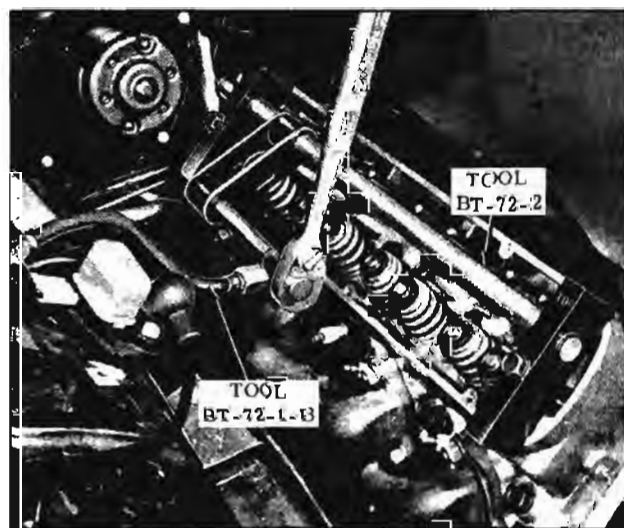

Fig. 8-122 Removing Valve Spring
3. Install Tool BT-72-2, (Fig. 8-122), compress the valve spring until valve keys are accessible, then remove keys, spring retainer cups, and springs.